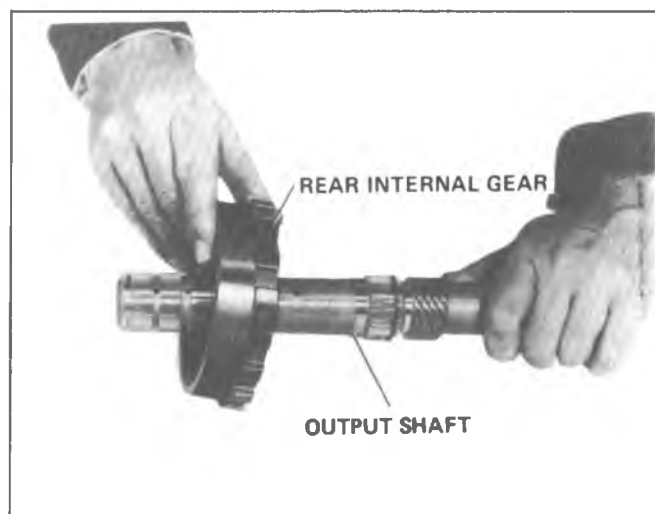

Fig. 7A-63A--Installing Rear Internal Gear on Output Shaft
5. Install rear internal gear to rear sun gear roller thrust bearing assembly by placing the small diameter race over the output shaft (Fig. 7A-64A).